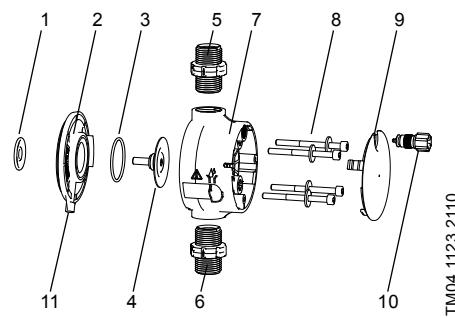

Fig. 41 Changing the diaphragm and valves
Daily	<p>Check, if liquid leaks from the drain opening (fig. 41, pos. 11) and if the drain opening is blocked or soiled. If so, follow the instructions given in section 7.6 Diaphragm breakage.</p> <p>Check, if liquid leaks from the dosing head or valves.</p> <p>If necessary, tighten dosing head screws with a torque wrench at 4 Nm. If necessary, tighten valves and cap nuts, or perform service (see 7.4 Perform service).</p>
This section refers to fig. 41.
If the diaphragm leaks or is broken, dosing liquid escapes from the drain opening (fig. 41, pos. 11) on the dosing head.
In case of diaphragm breakage, the safety diaphragm (fig. 41, pos. 1) protects the pump housing against ingress of dosing liquid.
When dosing crystallising liquids the drain opening can be blocked by crystallisation. If the pump is not taken out of operation immediately, a pressure can build up between the diaphragm (fig. 41, pos. 4) and the safety diaphragm in the flange (fig. 41, pos. 2). The pressure can press dosing liquid through the safety diaphragm into the pump housing.